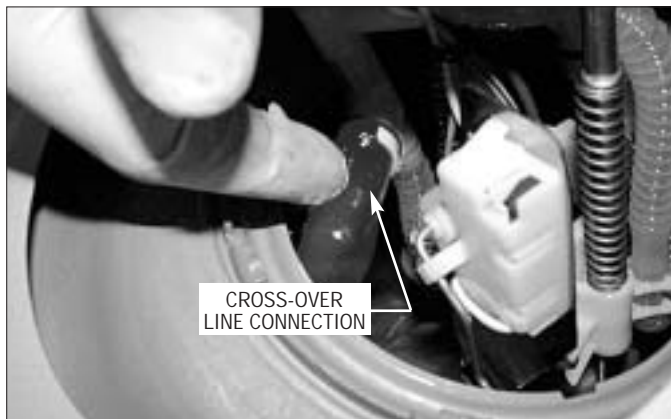

Fig. 13-c
- E.** Slowly pull the fuel pump assembly up. Locate the cross-over fuel line connection on the fuel pump assembly and disconnect. (See Fig. 13-c.)